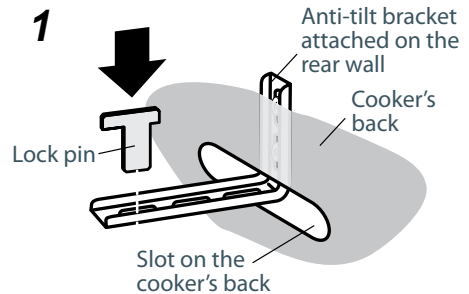

Fig. 3c Fitting the lock pin through the bracket
- Fit the lock pin through the bracket, as shown (Fig.3c).